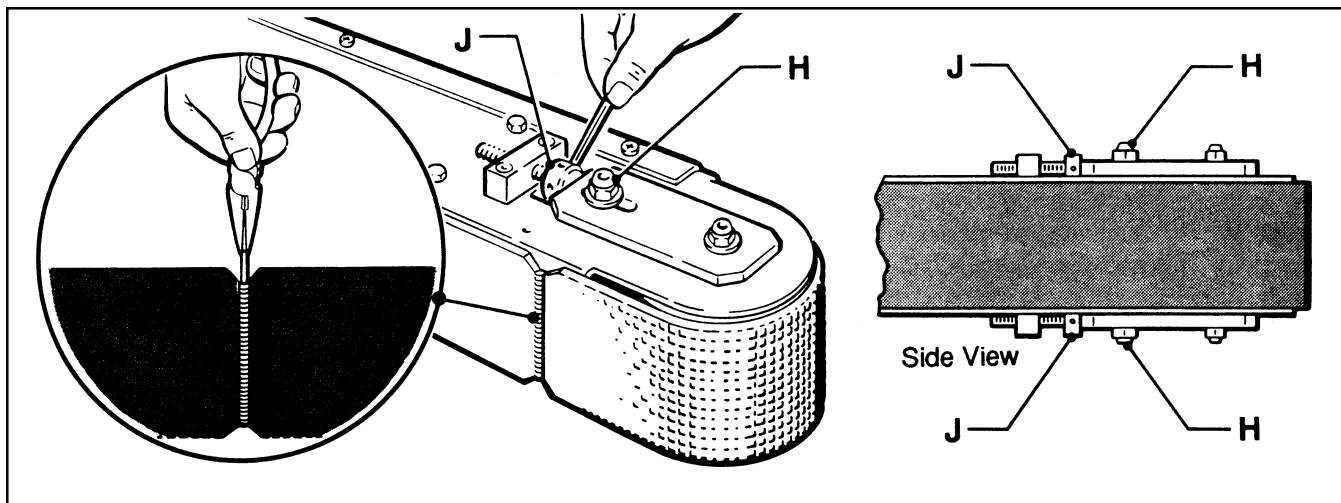

Figure 4-3 – Drive Assembly – Infeed End
9. Install new drive belt around drive rollers and insert new pin. **Pin must not extend beyond edge of belt.** See Figure 4-3.
10. Drive Belt Tension (Refer to Figures 4-3 and 4-4)